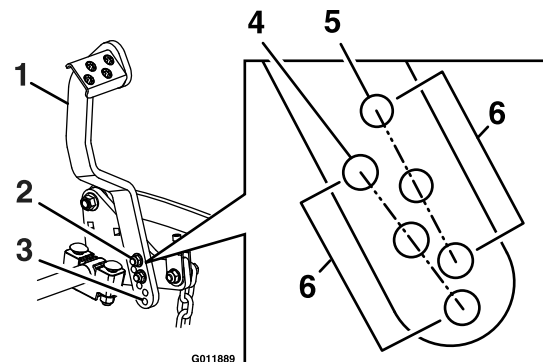

Figure 17
7. Remove the two nuts from the deck lift foot pedal (see Figure 17).